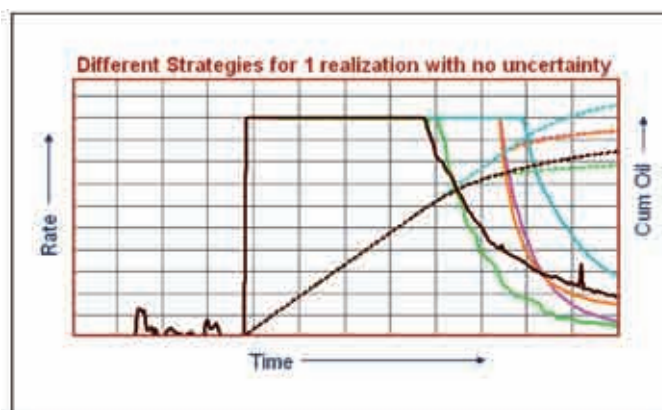
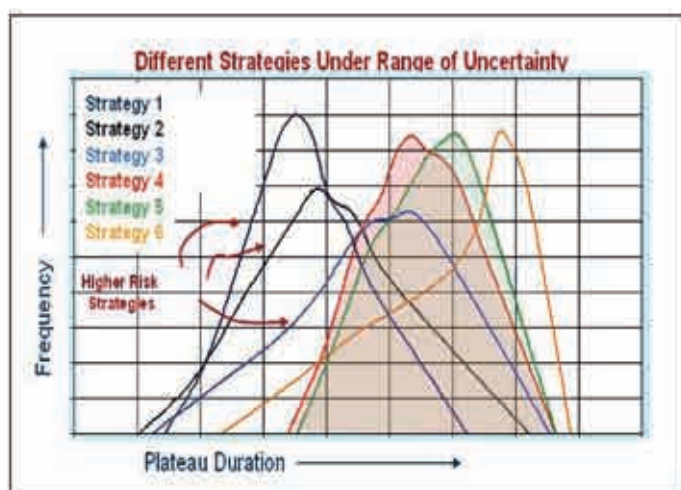

Figure 6 - Deterministic analysis of alternative development strategies.
Figure 7 - Methodology used for selecting the Preferred Development Strategy (PDF) under uncertainty.
It has been found that the deterministic analysis normally are very misleading, as an example; the longer production plateau illustrated by one of the strategies in a traditional manner as shown in figure 6, was not the strategy that provided the longest plateau under uncertainty seen in figure 7. This step is, however, needed to identify the outliers and eliminate these strategies from the uncertainty runs explained in step (7) of the event process.
Figure 7 shows the range of possible outcome and the likelihood of the outcome in relation to plateau duration and relative to all possible uncertainties and their ranges. These plots are also created for other targets including recovery, water handling, and economic indicators. From this figure, as an example, it becomes very clear that the runs that are skewed to the left are more risky and have a higher probability of shorter production plateaus than those skewed to the right. This is the methodology used in the Event Process to select the Preferred Development Strategy (PDS) for optimization in Step 8.